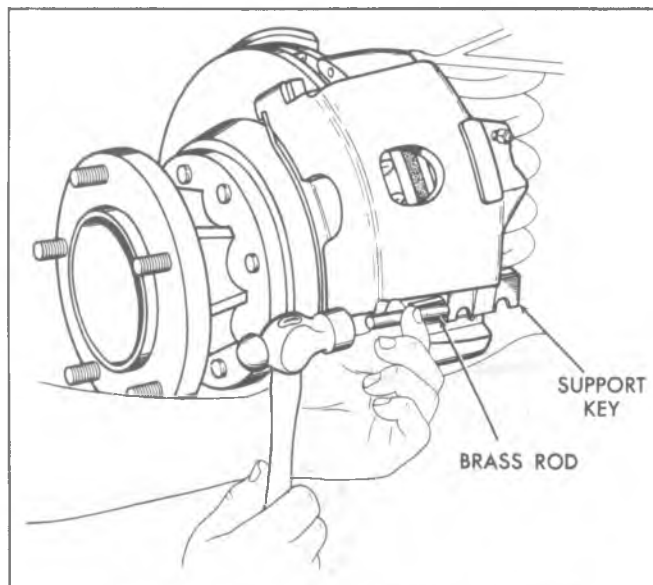

Fig. 5-34—Removing the Caliper Support Key
4. Remove the bolt at the caliper support key. Using a brass punch, remove the key and spring (fig. 5-34).